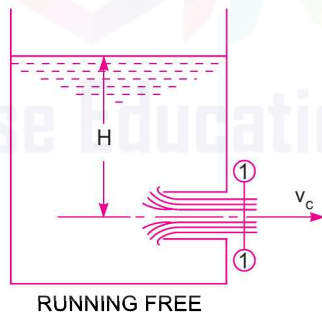
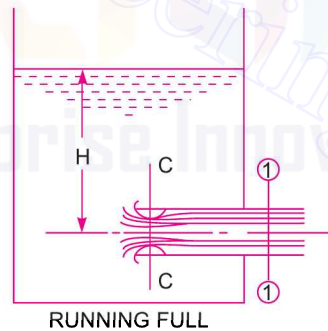

Fig. 7.16
Fig. 7.17
A short cylindrical tube attached to an orifice in such a way that the tube projects inwardly to a tank, is called an internal mouthpiece. It is also called Re-entrant or Borda's mouthpiece. If the length of the tube is equal to its diameter, the jet of liquid comes out from mouthpiece without touching the sides of the tube as shown in Fig. 7.16. The mouthpiece is known as *running free*. But if the length of the tube is about 3 times its diameter, the jet comes out with its diameter equal to the diameter of mouthpiece at outlet as shown in Fig. 7.17. The mouthpiece is said to be *running full*.
(i) **Borda's Mouthpiece Running Free.** Fig. 7.16 shows the Borda's mouthpiece running free.
Applying Bernoulli's equation to free surface of liquid and section (1)-(1) of Fig. 7.16
(ii) **Borda's Mouthpiece Running Full.** Fig. 7.17 shows Borda's mouthpiece running full.